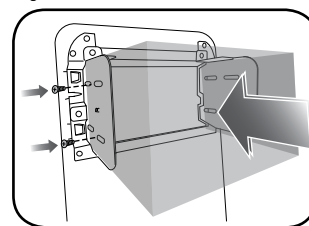

Fig. 1.11
- Snap the trim ring and metal brackets to the back of the DUR1 bezel. Line up the radio to the desired depth, attach the radio to the metal brackets, and then remove the radio and trim ring from the bezel. Set aside. (Fig. 1.11)